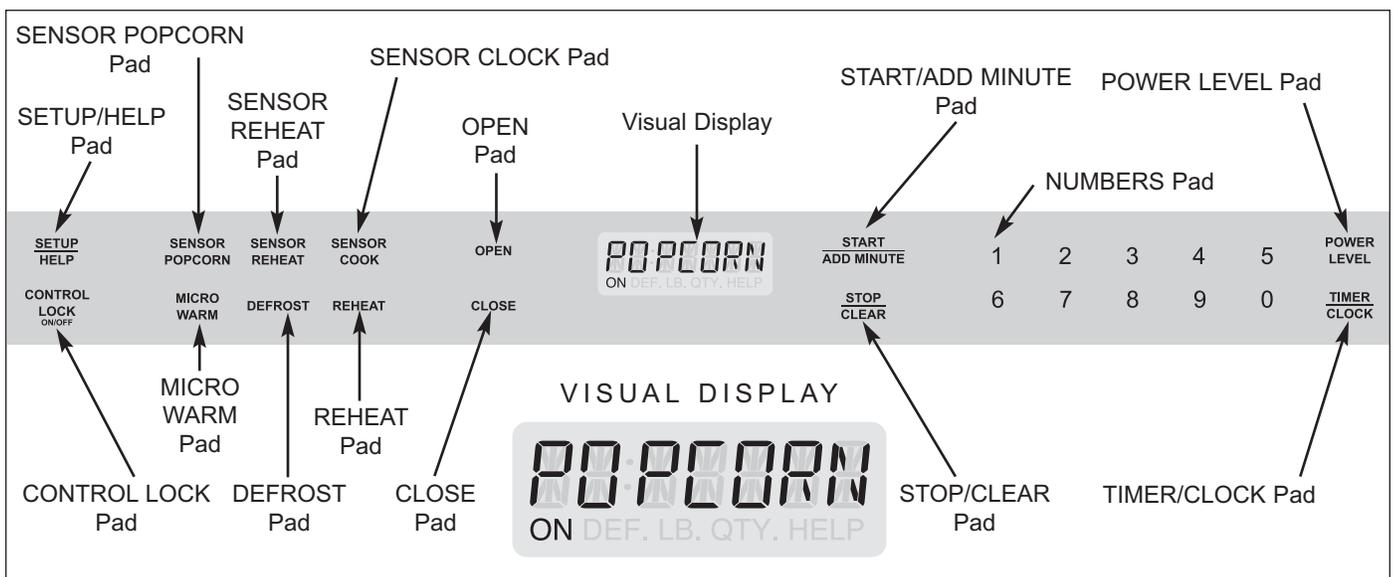

Figure 1-4. Touch Control Panel Layout
- Easy-to-operate control panel and 11 programmable power levels (See Figure 1-4)